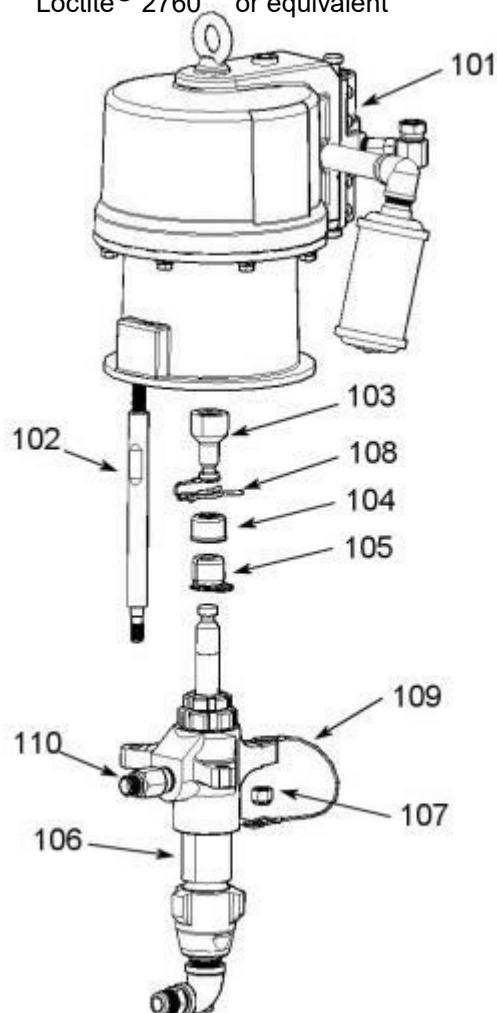

FIG. 4: Exploded View of Pump (not to scale)
2. Disconnect all the hoses. Air supply (see B fig 1), fluid delivery hoses from 110 (see Fig 4) and Paint Suction hose from the pump lower (see N Fig .1 on page 6.)